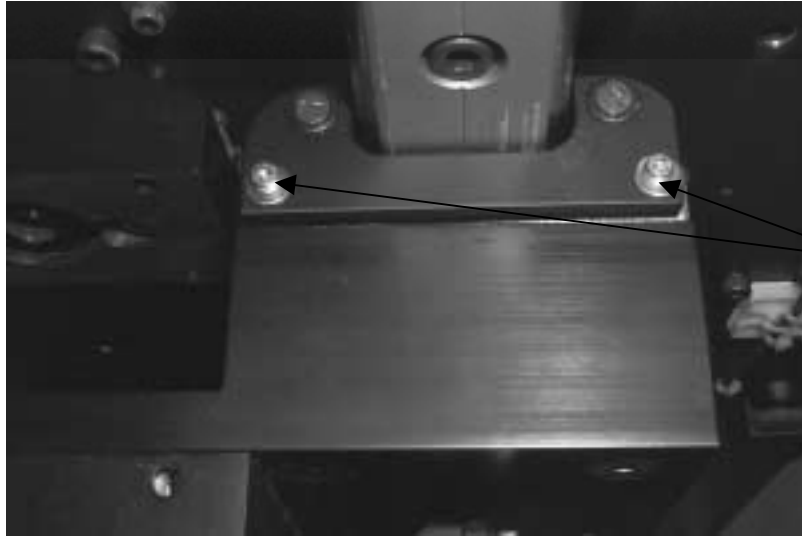

Figure 9.
17. Remove the two allen screws that hold the metal strip to the carriage. The metal strip may not come off because it is epoxied. If that is the case then just leave the metal strip in. Add the magnet retainer w/ magnets already attached. (See Figure 9).